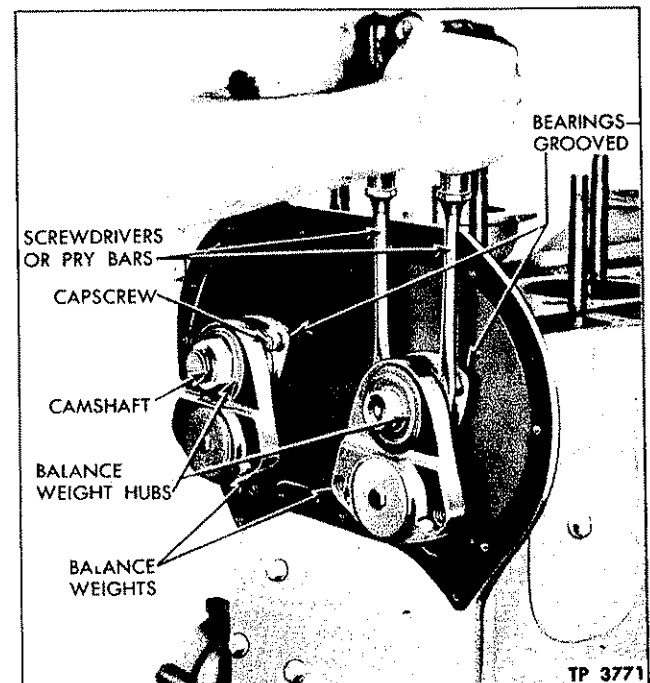

Figure 62—Removing Balancer Weight Assemblies (Early 6-cyl. Shown)
5. Remove balance weight assemblies by using two heavy screwdrivers, or pry bars, between heads of bearing retainer bolts and balance weight hubs, as shown in figure 62. Remove Woodruff keys.